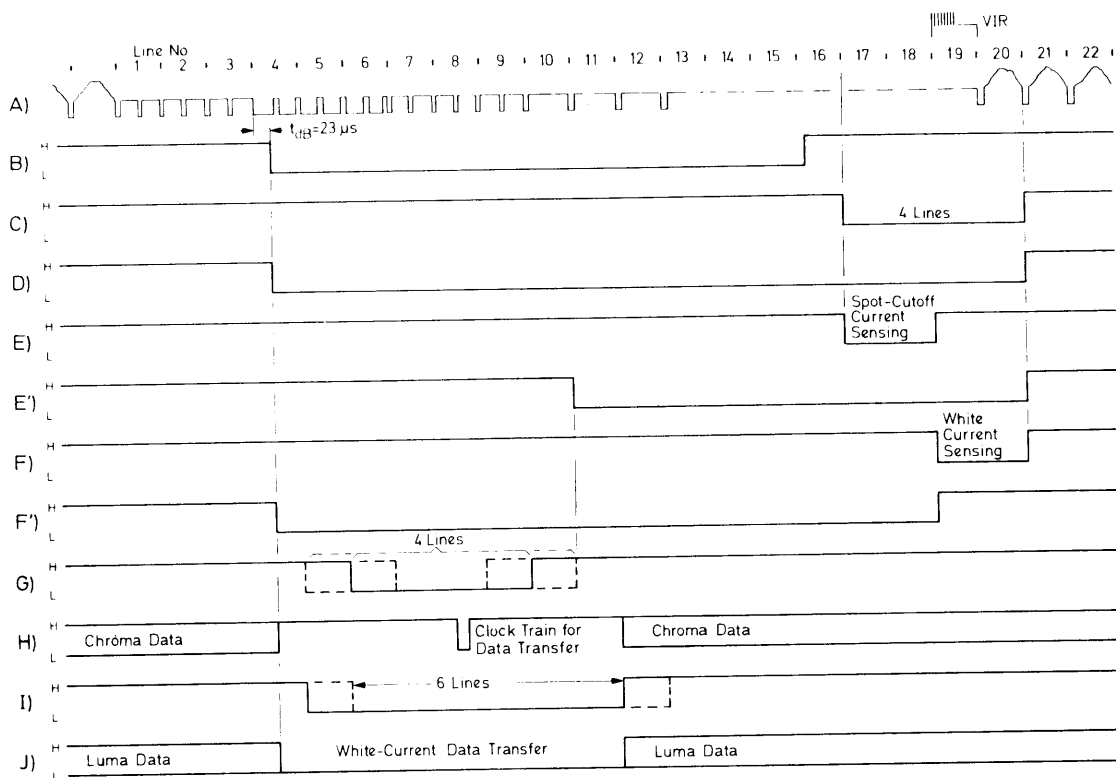

**Fig. 7:** Pulses which control the VCU's blanking circuit
- MUX data transfer of the chroma signals from PSP to VCU 2134. Upper line: sync pulse from pin 8/PSP to pin 21/VCU during sync time in horizontal blanking time, see Fig. 7 b. Lower line: valid data from pins 8 to 11/PSP to pins 18 to 21/VCU
The blanking circuit is controlled by two pulse combinations supplied by the DPU 2554 Deflection Processor ("sandcastle pulses"). Pin 34 of the VCU 2134 receives the combined vertical blanking and delayed horizontal blanking pulse from pin 22 of the DPU (Fig. 7 b), and pin 36 of the VCU gets the combined undelayed horizontal blanking and color key pulse from pin 19 of the DPU (Fig. 7 a). The two outputs of the DPU are tristate-controlled, supplying the